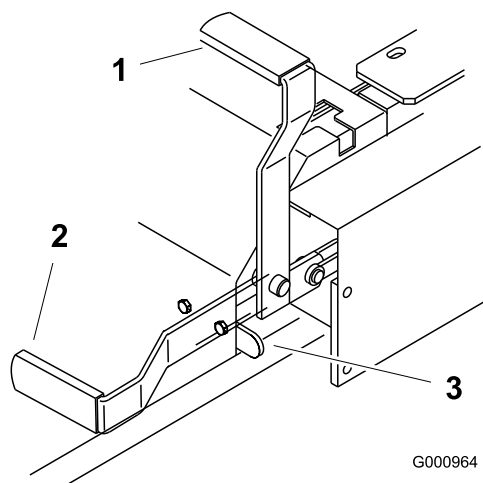

Figure 11
2. Pull up and back on the parking brake lever to set the parking brake (Figure 11). The parking brake lever should stay firmly in the engaged position.
Push forward and down on the parking brake lever to release the parking brake (Figure 11). The parking